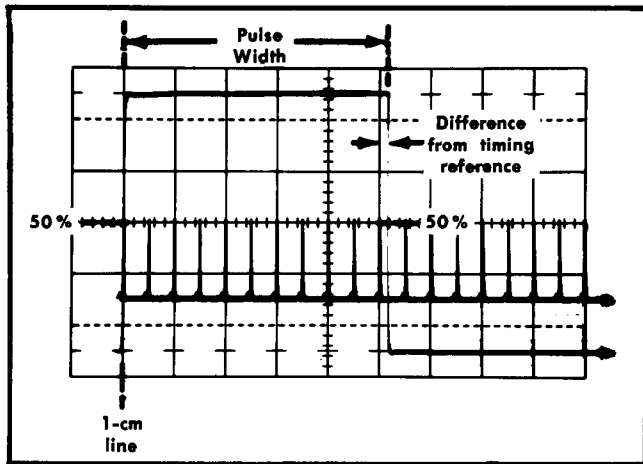

Fig. 6-10. Typical test oscilloscope display for checking pulse width.
d. Check for—Test oscilloscope display of the pulse width as indicated in the table, as measured at the 50% amplitude level. (See Fig. 6-10).